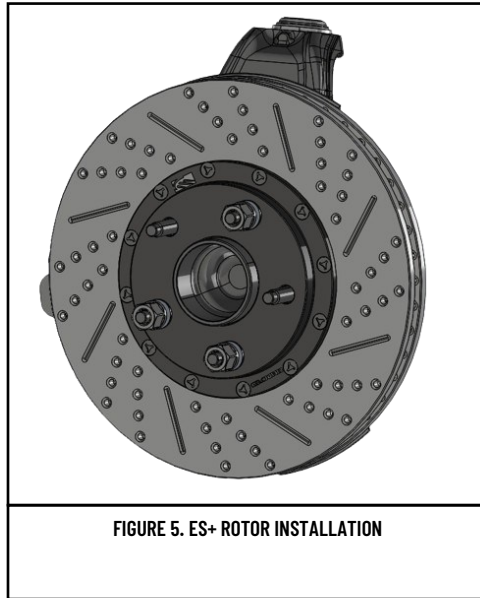

FIGURE 5. ES+ ROTOR INSTALLATION
2. Temporarily secure the rotor to the hub with three lug nuts and washers to prevent scratching the rotor hat face (Figure 5).